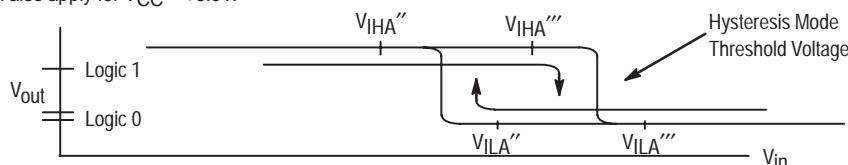

Figure 1. Hysteresis Mode Threshold Voltage
2. Output latched to logic high state prior to test. VIHA', VILA' are standard logic 1 and logic 0 MTTL threshold voltages. VIHA'', VILA'', VIHA''' and VILA''' are logic 1 and logic 0 threshold voltages in the hysteresis mode as shown in Figure 1 on page 301.
- Output latched to logic high state prior to test. VIHA', VILA' are standard logic 1 and logic 0 MTTL threshold voltages. VIHA'', VILA'', VIHA''' and VILA''' are logic 1 and logic 0 threshold voltages in the hysteresis mode as shown in Figure 1 on page 301.